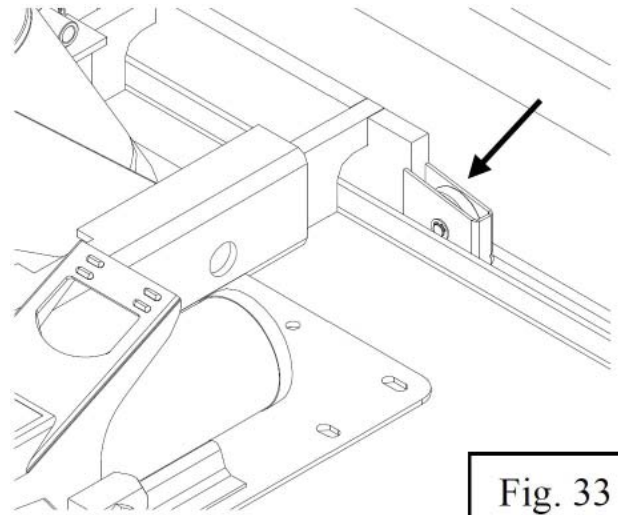

Fig. 33
- Check to make sure that all four rollers are seated properly on rails as shown in the fig.33.